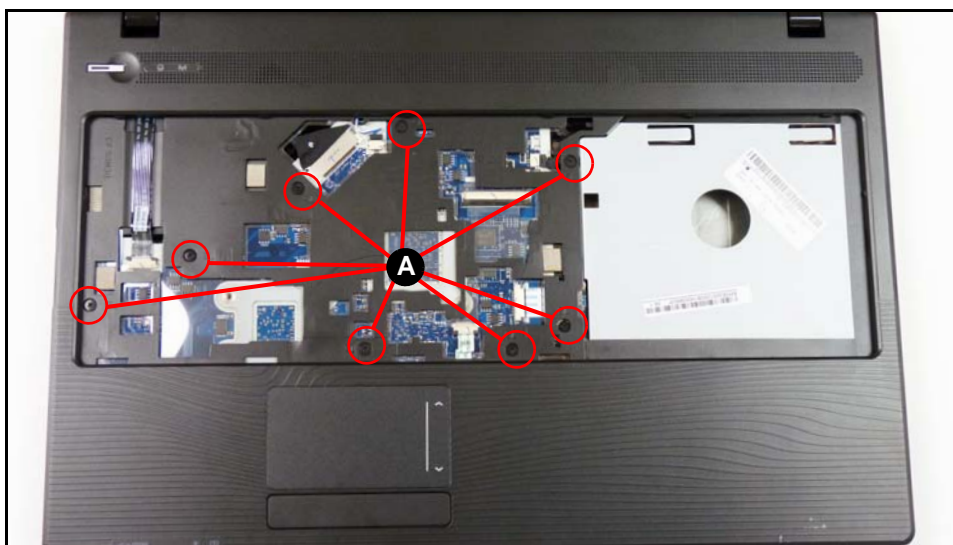

Figure 3-17. Upper Cover Screw Location
2. Remove eight (8) securing screws (A) from the upper cover. (Figure 3-17)
3. Install and secure eight (8) screws (A) to upper cover. (Figure 3-17)